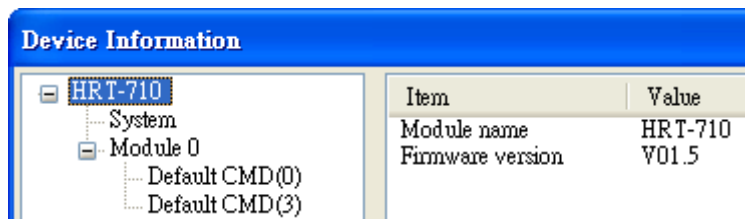

Figure 2-1 “Device Information” screen
(1) Make sure connecting to HRT-710 with HG_Tool successfully and then click “**Device Information**” button like Figure 2-1.